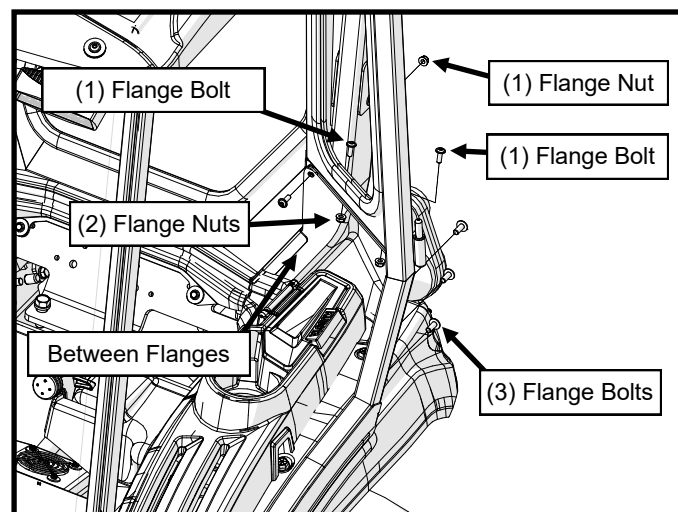

Figure 31: Install Storage Box Shroud
(2) 1/4-20 flange nut
31. Install the plastic storage box shroud from the outside rear of the cab so as not to disturb the rubber seal along the rear panel. Make sure the inner edge of the plastic slides between the flanges in the rear panel. Secure with supplied hardware. See figure 31.